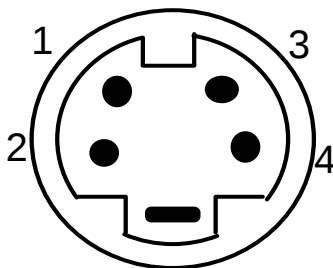

Figure 1.7. I/O Cable Interface – Old Connector.
1. Old IPX and MDC camera shipped prior to March 1, 2005, come with a power cable which terminates in a HIROSE plug #HR10A-10R-10P, and have a small pig-tail cable ending with 4 pin interface connector for the external trigger input and strobe output. The I/O interface connector is shown in Figure 1.7, and the corresponding pin mapping in Table 1.5b.